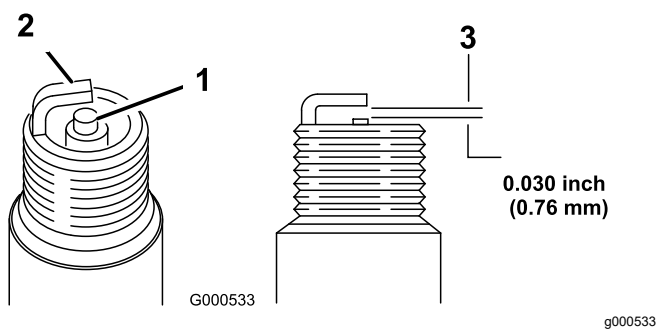

Figure 26
5. Set the gap on the plug to 0.76 mm (0.030 inch); refer to Figure 26.